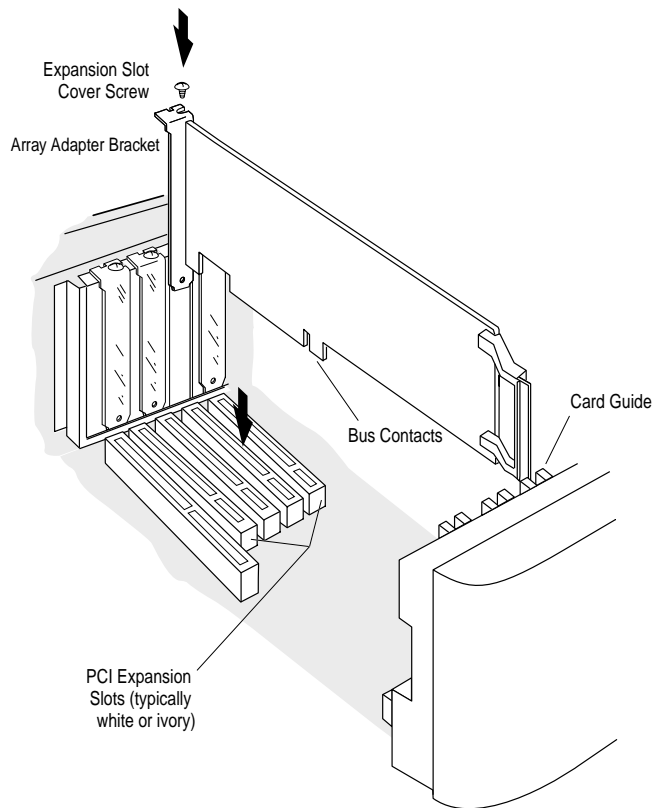

Figure 2-4. Installing an AAA-132/133 in an Expansion Slot
- 4** Insert the AAA-130 Series adapter in the PCI slot; press down firmly so that the PCI bus contacts are securely seated in the slot. Secure the adapter bracket with the screw you removed in Step 3. (Figure 2-4 shows the installation of an AAA-132/133 adapter.)